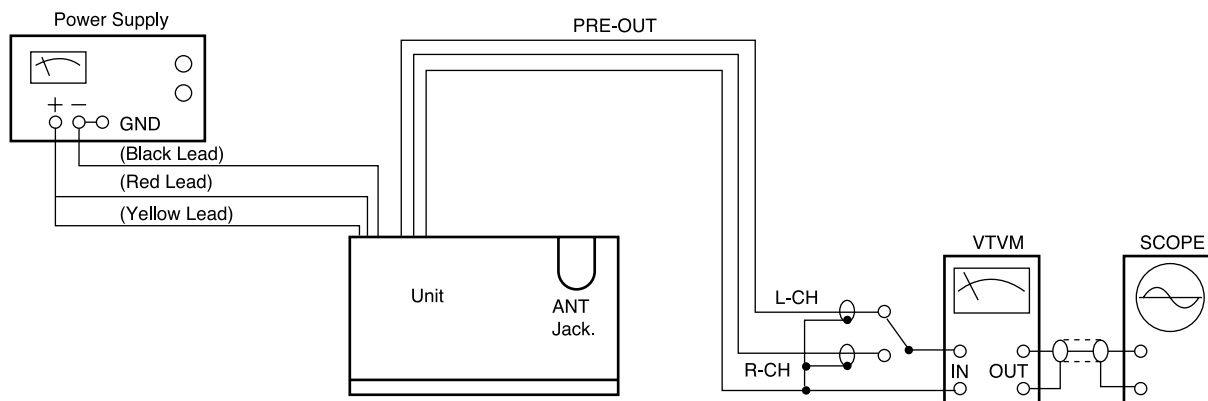

Figure 6.
- (1) Before this adjustment, clean PLAYBACK head surface.
- (2) For this adjustment, use test tape MTT-114.
- (3) VOLUME Center
- (4) BALANCE Center
- (5) TREBLE/BASS Center
- (6) Connect as shown in figure 6.